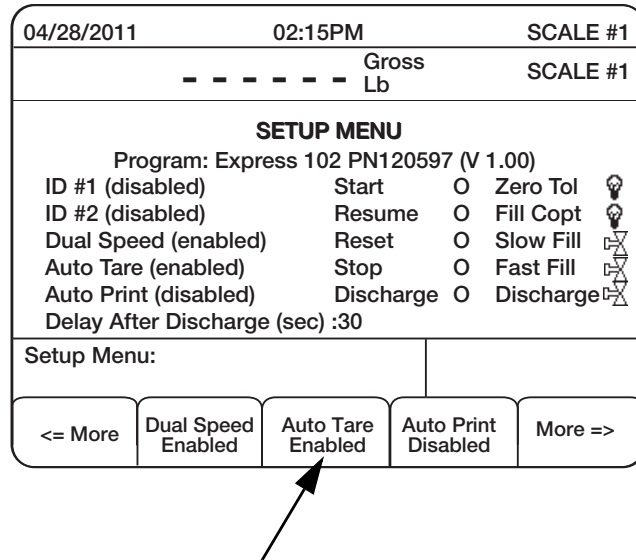

Figure 3-8. Auto Tare Softkey
1. From the *Main Setup Menu Screen*, press the **More=>** softkey to access the second setup menu screen (Figure 3-8).